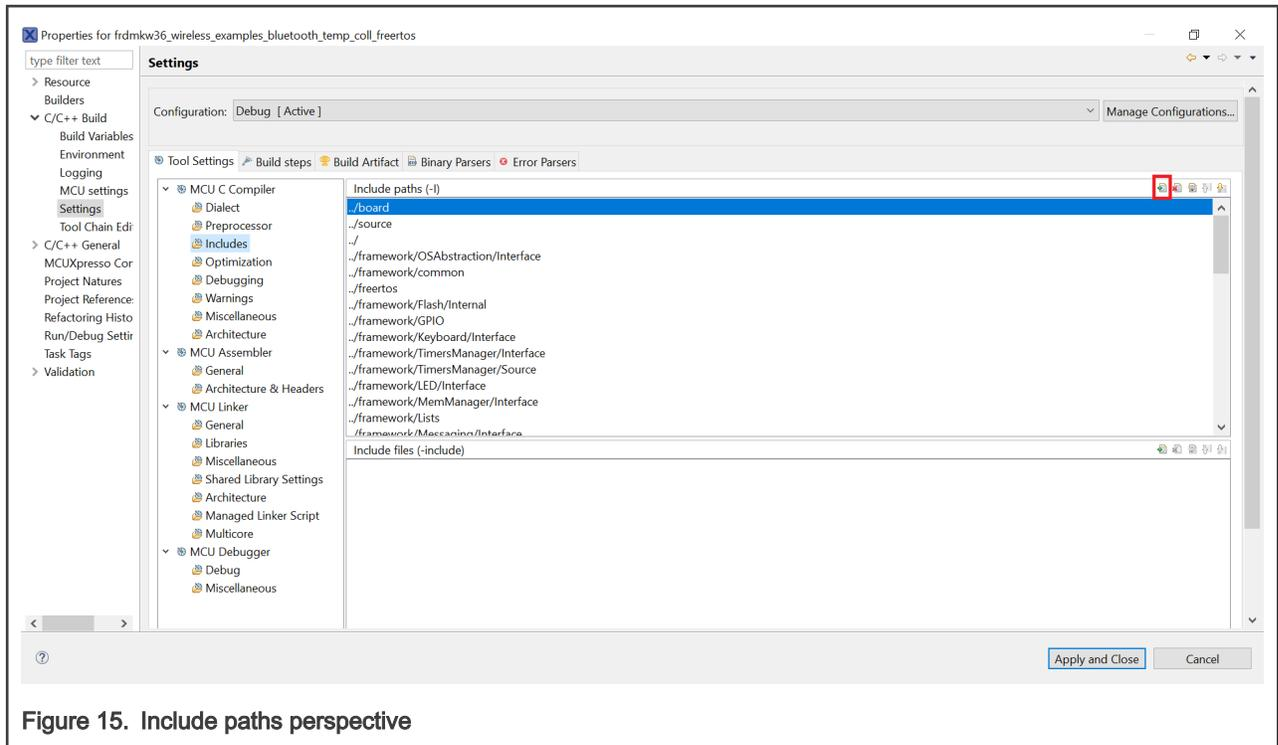

Figure 15. Include paths perspective
5. Navigate to **Project -> Properties** in MCUXpresso IDE. Go to **C/C++ Build -> Settings -> Tool Settings -> MCU C Compiler -> Includes**. Click the icon next to the **Include paths** textbox, as shown in Figure 15. In the new window that appears, click the **Workspace** button.